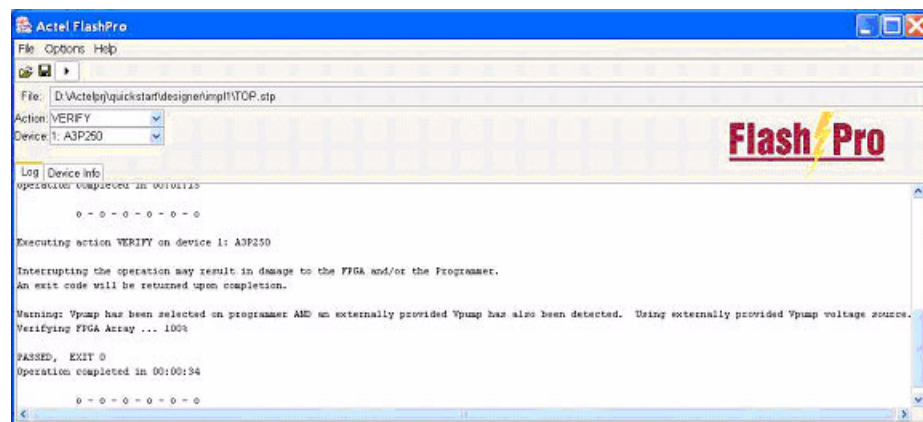

Figure 7-48. Successful Verification
- Click **Execute** to start the verification process. A successful verification will result in Exit 0, as shown in Figure 7-48 on page 64. If the *STAPL* file is different from the file used for programming, Exit 11 will appear in the Log window.